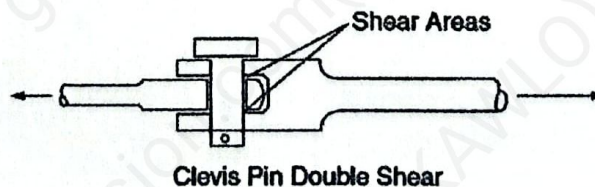

Figure 3
b) The hand brake linkage shown in figure 3 below, carries a tensile force of 600N with 12mm in diameter and 200mm long.